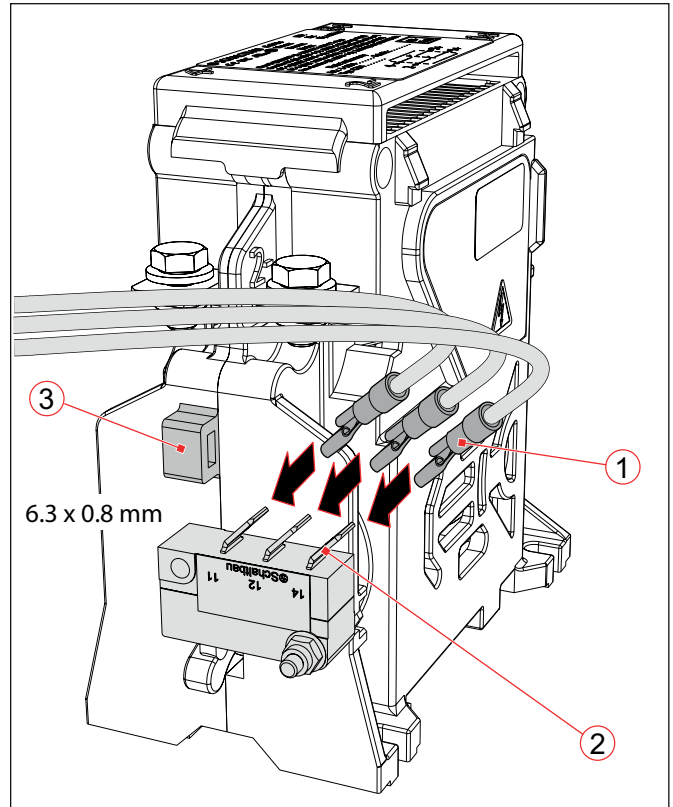
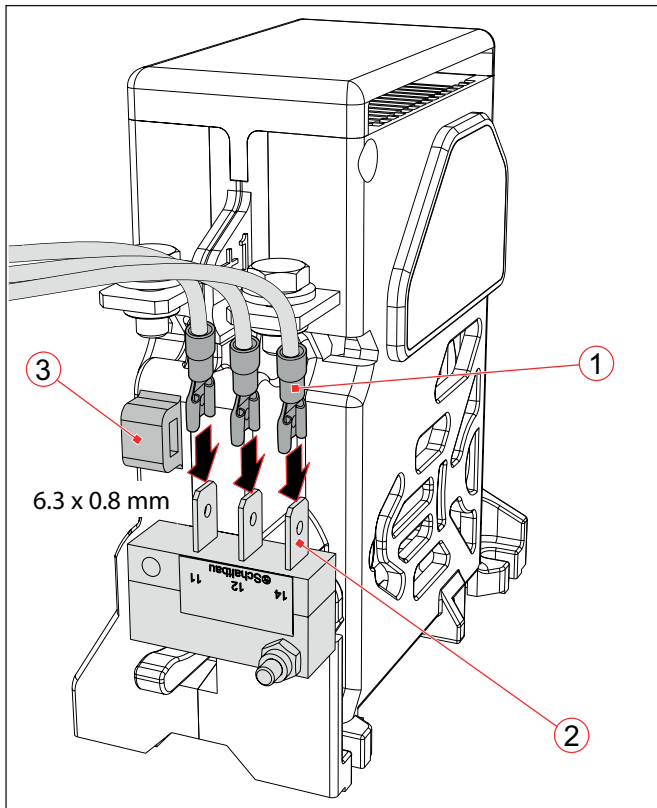

Fig. 10: C294 series: Connect the auxiliary contact (S870)
Fig. 9: C193 series: Connect the auxiliary contact (S870)
- ▶ Move and lay the control wires and flat receptacles only in plugging direction, see *Fig. 9* and *Fig. 10*.
- ▶ Plug the prepared control wires with the flat receptacles (1) to the terminals (2) of the auxiliary contact.
- ▶ Bundle the control wires with cable ties and fix them to the grommet (3) provided for this purpose.